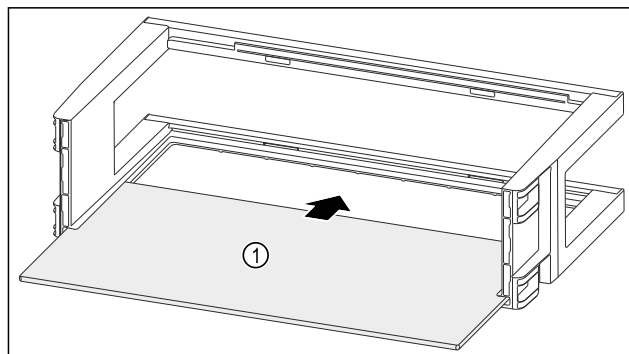

Fig. 145
- Push the shelf Fig. 145 (1) into the side recesses.